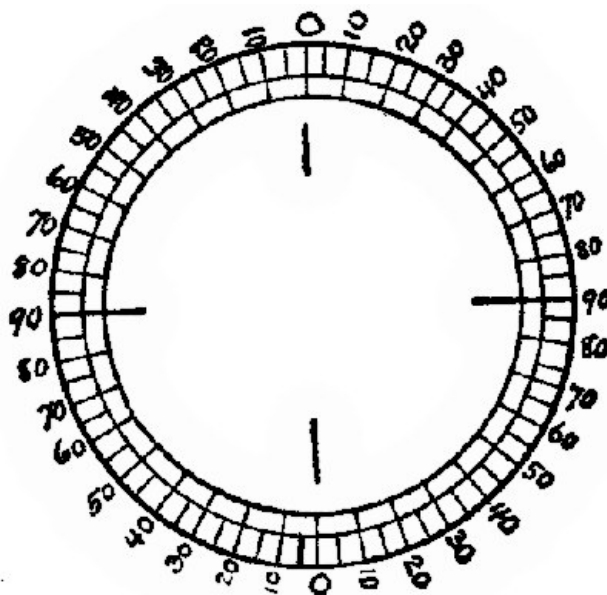

Fig. 123.
**272. Graduated Circles.** Fig. 123. For compasses (App. 67), and for use in connection with tangent galvanometers (App. 116), a graduated circle is necessary. Fig. 123 is a reduced drawing from an original that is 4 in. in diameter. The long lines are 10 degrees apart, the smallest divisions shown being 5 degrees apart. Single degrees can be determined with considerable accuracy with the eye.